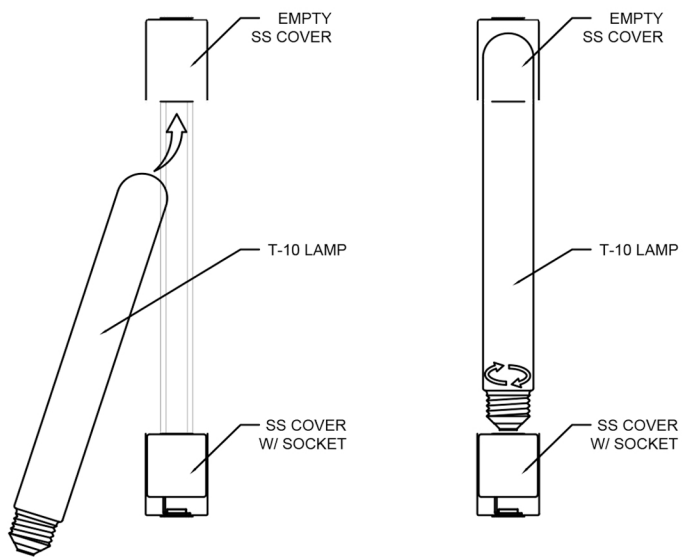

FIGURE-03
5. Install the lamps. (Type T-10 lamp) Incline the lamp and slide the tip to the empty ss cover until the position gets vertical then fasten it to the socket on the other ss cover.(See Figure-03)